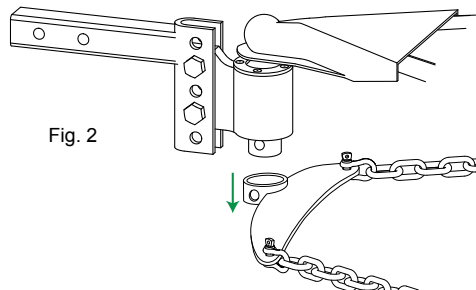

Fig. 2
5. Remove the TensionPlate — you can leave the chains and shackles attached to it (fig. 2).